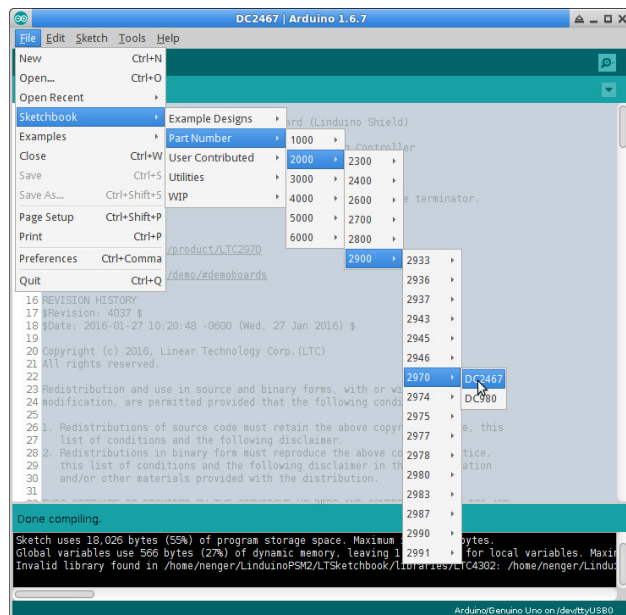
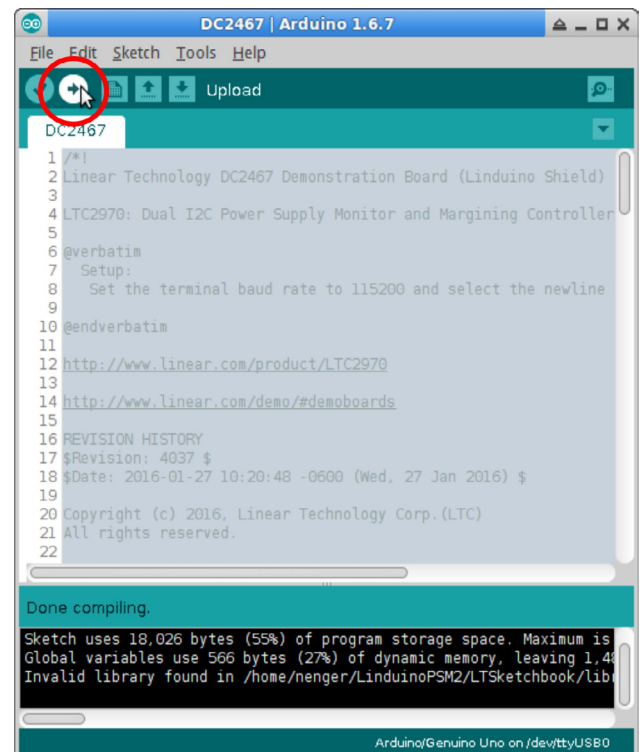

Figure 2. Open the DC2467 Sketch from the Sketchbook Menu
Figure 3. Press the Compile and Upload Button
Begin by opening the Arduino software. Select the DC2467 sketch in the Arduino File menu (Figure 2):
Press the arrow button at the top of the window to compile and upload the sketch (Figure 3).
2. Load the DC2467 Linduino sketch (Figure 2 and Figure 3).
Compile and upload your code to the Linduino with the arrow button shown in Figure 3.